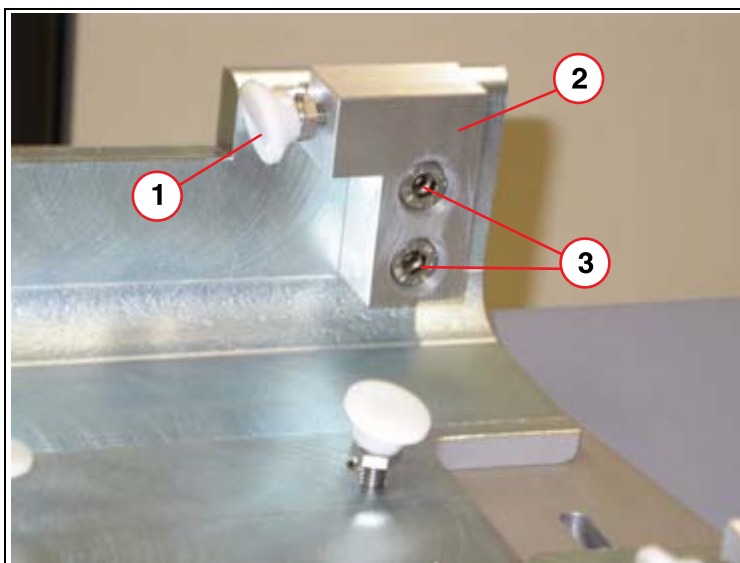

Fig. 13: Block
The bridge is to be modified for ARCADIS Orbic and SIREMOBIL ISO-C according to (Fig. 13 / p. 17).
- Screw the clamping screws from the enclosed material into the fastening block (1 und 2/Fig. 13 / p. 17).
- Attach these blocks to the bridge with 2 screws (3/Fig. 13 / p. 17).